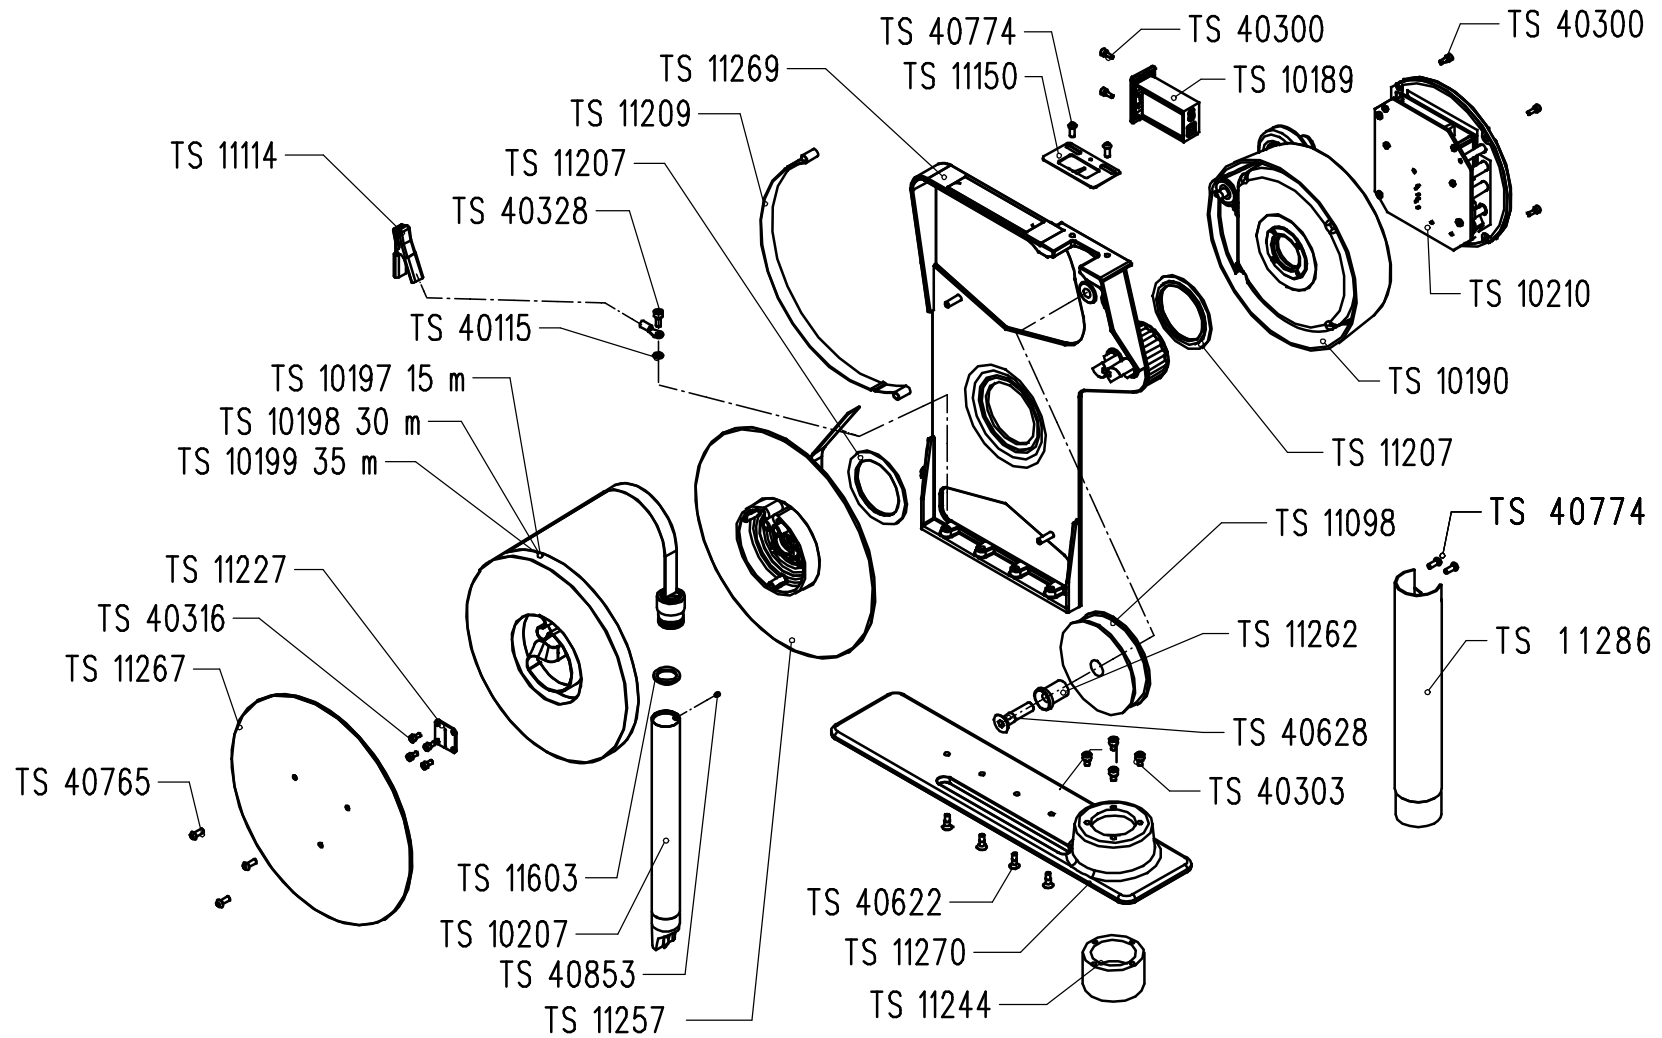

Figure 11-1 : general assembly HERMetric UTImeter Otex standard version, list of the main spare parts
- Figure 11-1 : general assembly HERMetic UTImeter Otex standard version, list of the main spare parts